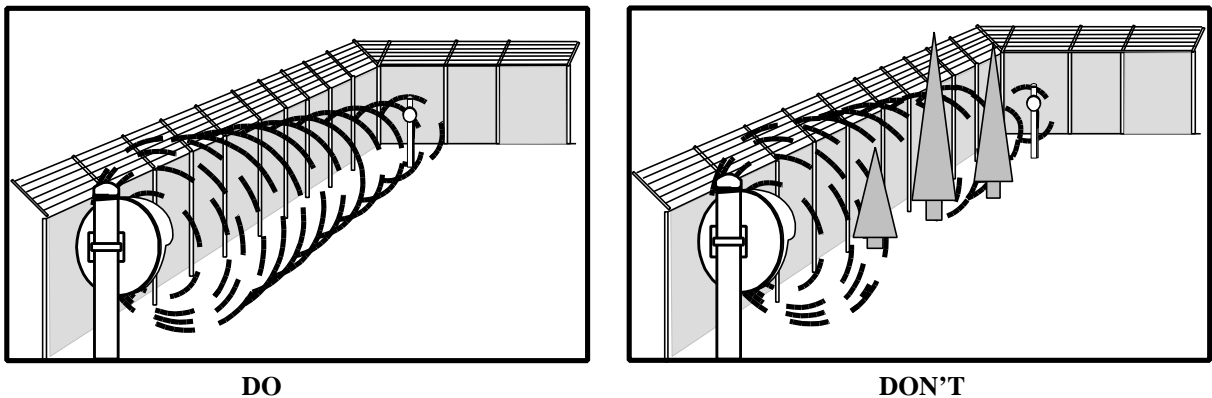

Figure 9
1. Required Area. Mode 310B must be located in an area which is free of obstructions and moving objects such as chain link fences, trees, bushes and large areas of water. See Figure 9. Large moving objects within the protection pattern will be indistinguishable from an intruder and will cause nuisance alarms.